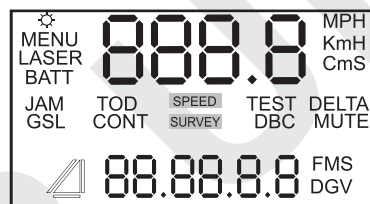

Figure 9: LCD Display Segments
1. Press the TRIGGER. Briefly, the screen display should look like Figure 9 below, and then the display will change to the Speed Measurement Screen. See figure 15 on page 12.
2. Refer to Figure 9 (above) to ensure that all of the display segments are showing on your UltraLyte 1000.
Table 2 lists the display indicators and the function of each. The indicators appear in order of location on the display, from left to right starting in the upper left corner. See Figure 9 on page 7.